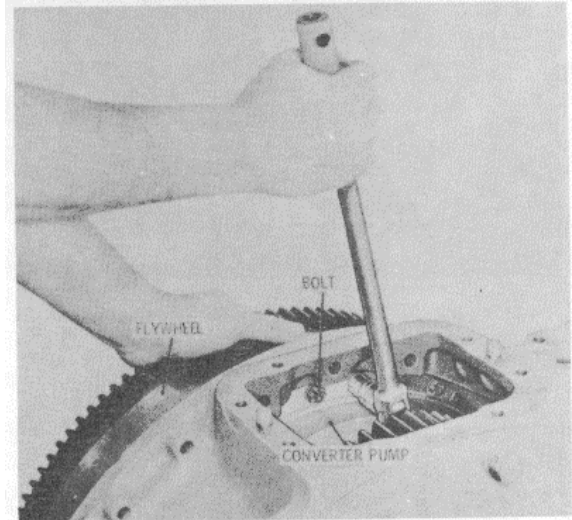

Figure 15-180. Tightening Flywheel Bolts
8. Rotate the flywheel housing on the converter pump to align the bolt holes (Figure 15-180). Through the PTO opening, install four 3/8-24 x 1-1/4 inch self-locking bolts with flat washers at 90° intervals. Tighten these bolts to 10 lb ft (13 N.m).